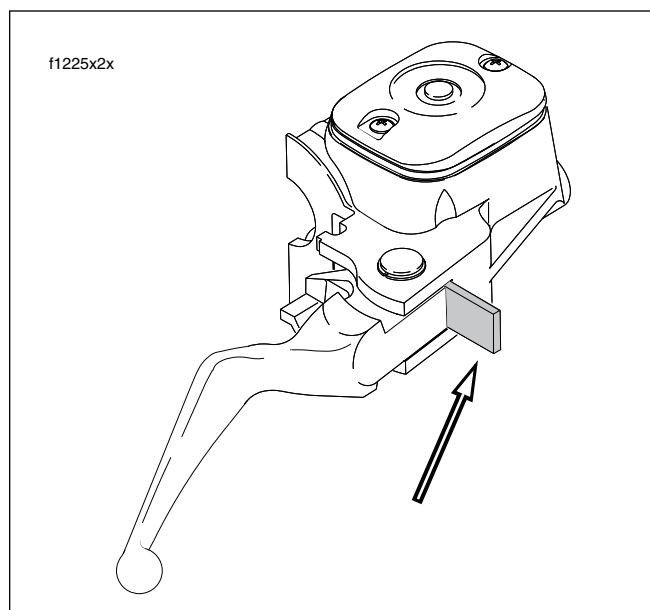

Figure 2-108. Install Cardboard Insert
1. Place the cardboard insert between the brake lever and lever bracket. See Figure 2-108.